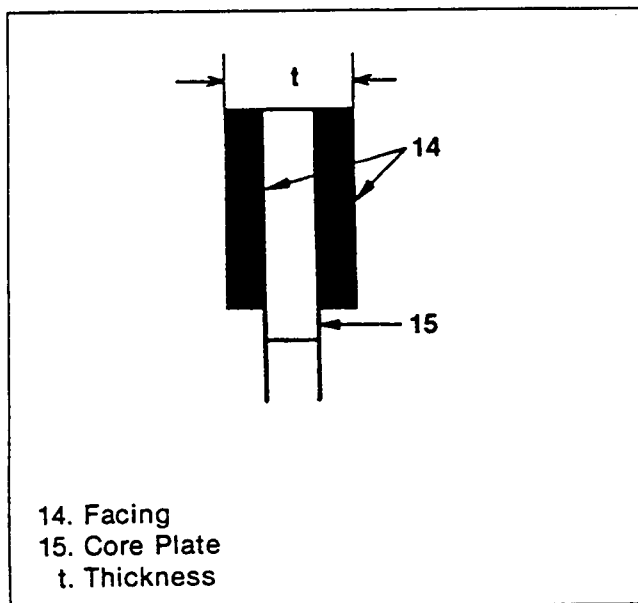

Figure 120. Drive Plate Facing Check
1. If one of the plates are burned, all plates should be replaced. If they are not burned, measure the thickness of each Drive Plate. If any one of the plates is out of specification, all plates must be replaced (figure 120).